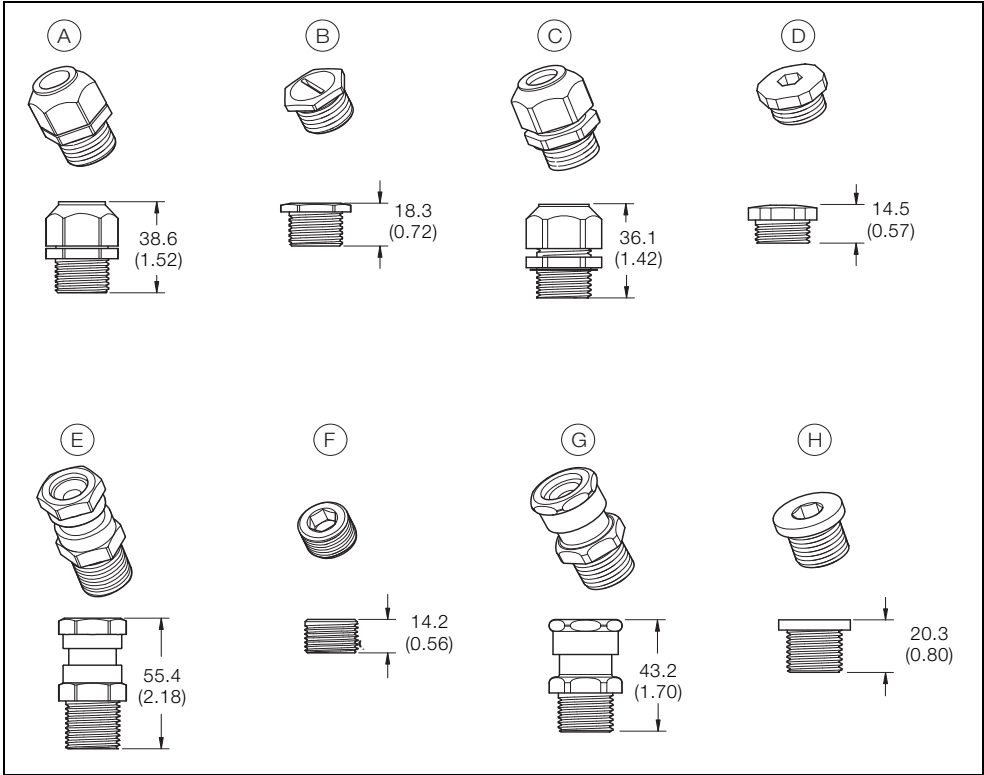

Fig. 4.1 Cable Glands and Plugs
2. Route the sensor wiring through one of the three threaded connections and use an appropriate gland in the transmitter housing (refer to Fig. 4.1, page 27 for gland options). Note, a cable gland is required.